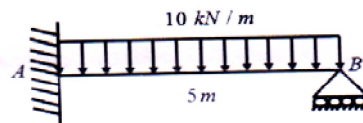

Figure 1
b) Determine the prop reaction of the propped cantilever beam AB as shown in Figure 1 using flexibility matrix method. Take $EI = \text{constant}$. [6]